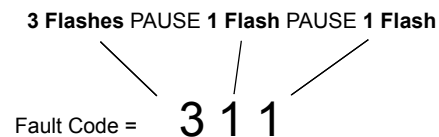

FIGURE 7-3
- c. Red stop light flashes a three-digit code to show which active fault has been detected (see Figure 7-3 for example). There is a 1 to 2-second pause between each number.